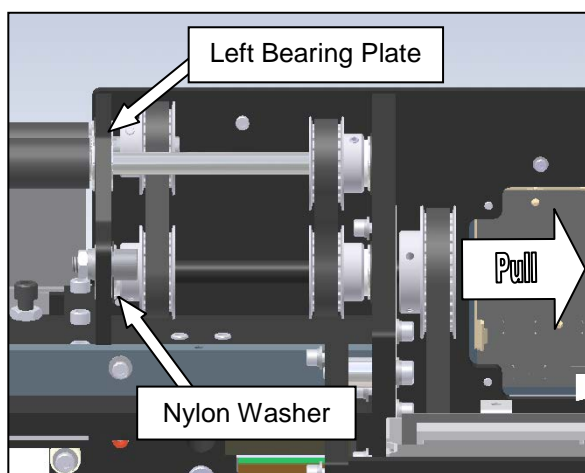

Figure 3-314. Clearing the Transfer Shaft
- Pull the transfer shaft out of the machine, sliding the film feed driven pulley with it in unison until the roller pulley is clear of the roller shaft. The transfer shaft does not need to be removed, only slid back until access to the spring block mounting screws is obtained. Note: there is a nylon washer between the left bearing plate and the film feed drive pulley. Do not misplace this washer, as it is needed for proper machine operation (Figure 3-314).